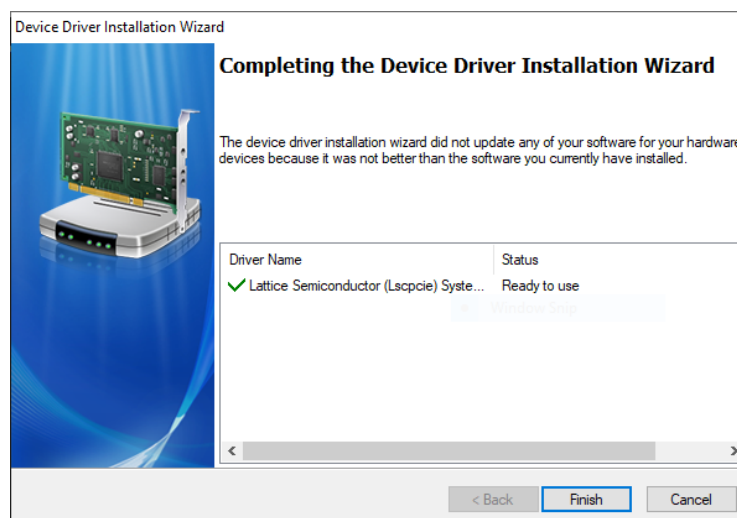

Figure 3.30. Device Driver Installation Completed
9. If the driver is installed successfully, a message is displayed as shown in Figure 3.30.